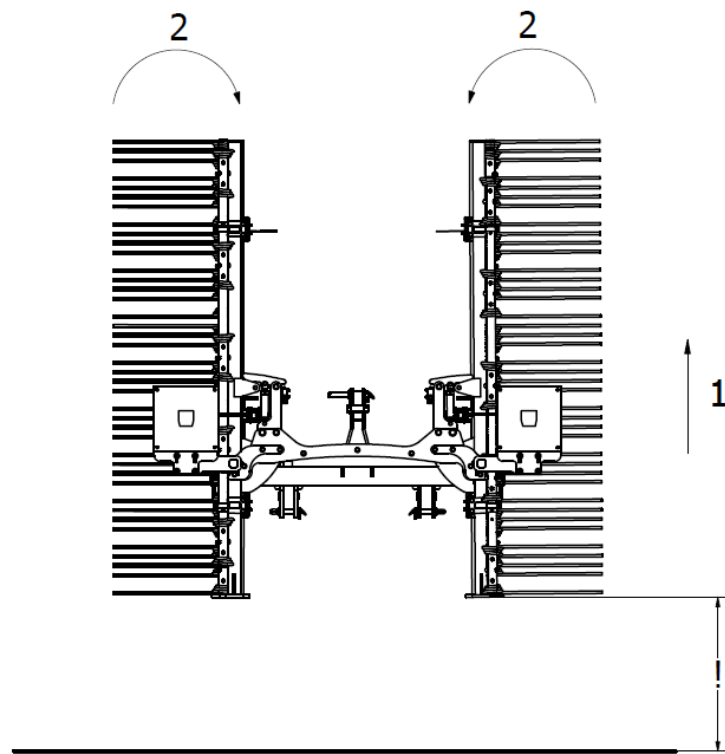

Fig. 10 Implement opening sequence: 1- raise the implement up to the maximum, 2- fold the side extensions into the “closed” position.
1. First, raise the implement as much as possible to be able to fold it correctly, avoiding the risk of the folding arms catching on the ground during movement (Fig. 10).
2. Next, fold the implement side extensions hydraulically into the “closed” position to ensure that the side extension lock mechanism will unlock and allow the implement arms to be opened at a later stage. This operation is necessary each time the arms are opened (Fig. 10).